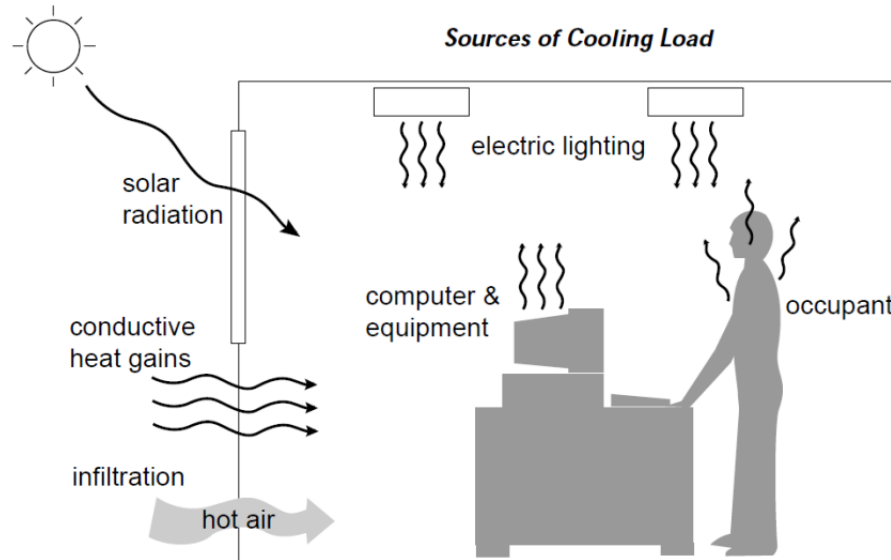

Figure 29: Multiple sources of cooling load
- **Reduce cooling loads aggressively.** Look for opportunities where architectural decisions can save operating costs, reduce mechanical first costs, and reduce mechanical space requirements. Figure 29 shows some areas to consider. Reducing cooling loads provides many benefits. Size shading to reduce direct solar gain in the cooling season. Smaller mechanical rooms and shafts yield more leasable space. Smaller plenums allow higher ceilings (an interior amenity, also helpful for daylighting performance) or possibly additional floors within the building height allowance. Smaller equipment is less visible on the roof and easier to accommodate within normal floor-to-floor heights.